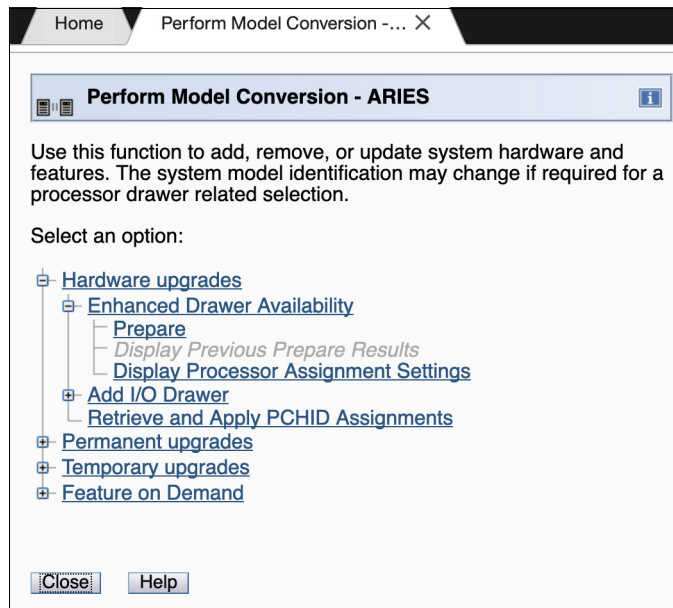

Figure 9-4 Clicking Prepare for Enhanced Drawer Availability option
For the EDA process, this phase is the preparation phase. It is started from the SE, directly or on the HMC, by using the Single object operation option on the Perform Model Conversion window from the CPC configuration task list, as shown in Figure 9-4.
The preparation step can be run without performing a drawer replacement. You can use it to dynamically adjust the operational configuration for drawer repair or replacement before IBM SSR activity. The Perform Model Conversion window in you click **Prepare for Enhanced Drawer Availability** is shown in Figure 9-4 on page 399.
5. Repeat the step that is shown in Figure 9-4 on page 399 to ensure that the required conditions are all satisfied.